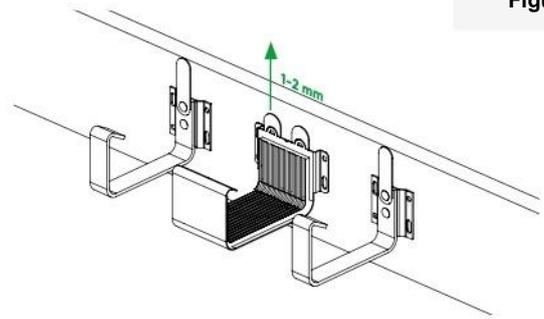

Figure 17
- 4.3. The expansion coupler should be screwed to the fascia board higher than the adjacent brackets (the upper surface of the expansion coupler gasket should be approx. 1-2 mm above the gutter bottom surface) (Fig. 17).